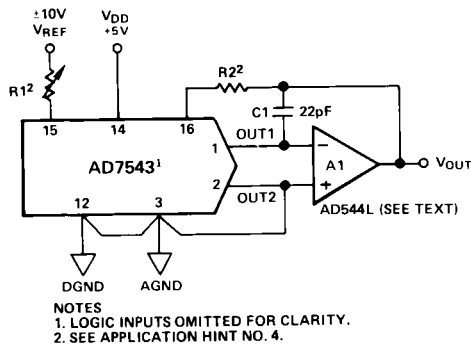
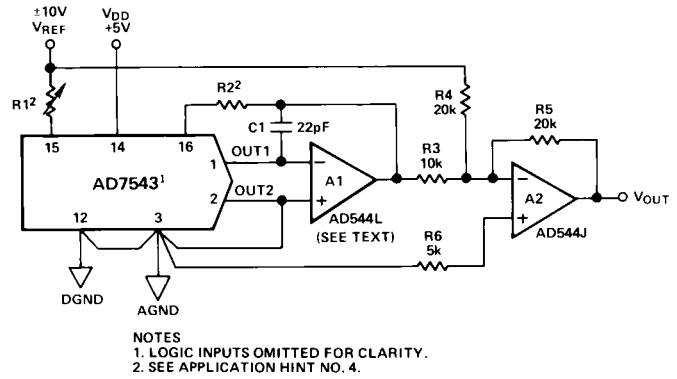

Figure 6. Unipolar Binary Operation (2-Quadrant Multiplication)
Figure 7. Bipolar Operation (4-Quadrant Multiplication)
Gain is defined as the ratio of the DAC's Full Scale output to its reference input voltage. An *ideal* AD7543 would exhibit a gain of  $-4095/4096$ . Gain error is adjustable using external trims as shown in Figures 6 and 7.
Register B can be asynchronously reset to 0000 0000 0000 by bringing CLR momentarily LOW. This allows the DAC output voltage to be set to a known condition, thus simplifying system initialization procedure. When operating the AD7543 in the unipolar circuit of Figure 6, a CLEAR causes the DAC output voltage to equal 0V. When using the bipolar circuit of Figure 7, a CLEAR causes the DAC output to equal -VREF.
Figure 6 shows the analog circuit connections required for unipolar binary (2-quadrant multiplication) operation. The logic inputs are omitted for clarity. With a dc reference voltage or current (positive or negative polarity) applied at pin 15, the circuit is a unipolar D/A converter. With an ac reference voltage or current (again of + or - polarity) the circuit provides 2-quadrant multiplication (digitally controlled attenuation). The input/output relationship is shown in Table III.
Table III. Unipolar Binary Code Table for Circuit of Figure 6
Figure 7 and Table IV illustrate the circuitry and code relationship for bipolar operation. With a dc reference (positive or negative polarity) the circuit provides offset binary operation. With an ac reference, the eleven LSBs provide digitally controlled attenuation of the ac reference while the MSB provides polarity control.
Table IV. Bipolar Code Table for Offset Binary Circuit of Figure 7
4. GAIN TEMPERATURE COEFFICIENTS: The gain temperature coefficient of the AD7543 has a maximum value of 5ppm/°C and a typical value of 2ppm/°C. This corresponds to gain shifts of 2.0LSBs and 0.82LSBs respectively over a 100°C temperature range. When trim resistors are used to adjust full-scale range as shown in Figures 6 and 7 the temperature coefficient of R1 and R2 should be taken into account. It may be shown that the additional gain temperature coefficients introduced by R1 and R2 may be approximately expressed as follows:—